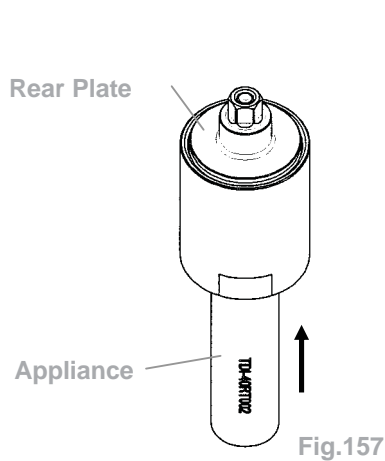

Fig.157
- 4.2 Use the appliance to push out the rear plate from the pulse cylinder seat. See Chart 2 in reference to the proper appliance selection. (Fig. 157)